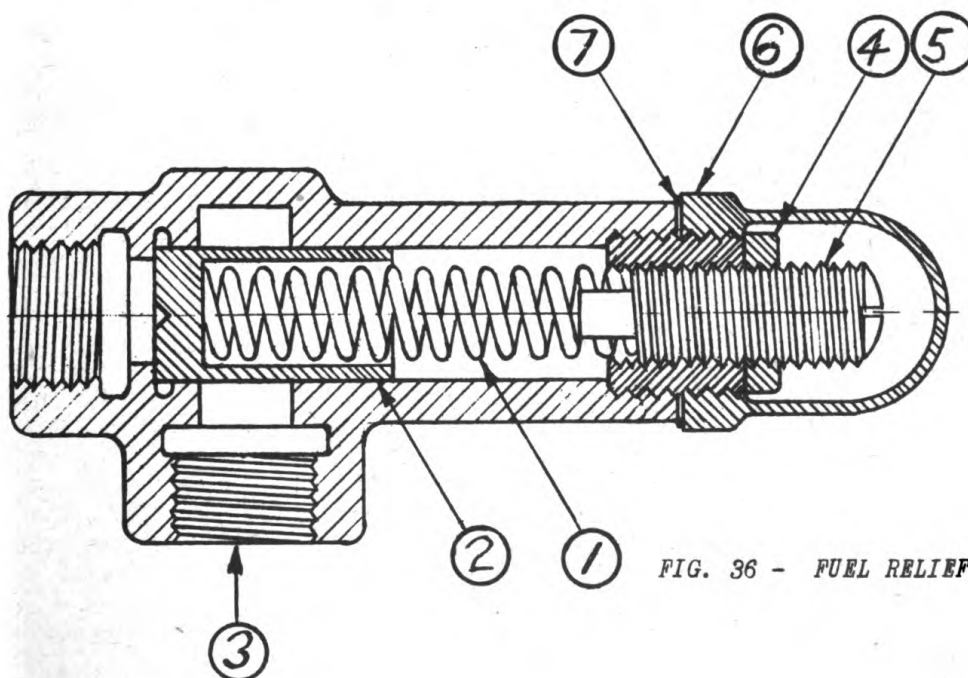

FIG. 36 - FUEL RELIEF VALVE.
To adjust pressure at which valve will operate remove cap (6) Fig. 36, and loosen nut (4). When the valves leave the factory, they are usually set to release at 40 lbs. pressure. If it is desired to increase the pressure at which the valve will operate, turn the adjusting screw (5) to the right until the desired pressure is indicated on the oil pressure gauge located near the burner. To decrease the operating pressure, turn adjusting screw (5) to left until the desired pressure is reached.